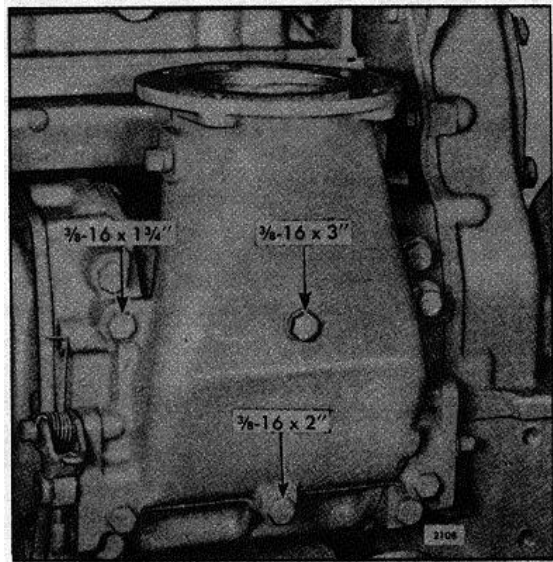

Fig. 3 - Location of Air Shut-Down Housing Mounting Bolts (In-Line Engines)
- a. Install and finger tighten the six attaching bolts shown in Fig. 3.